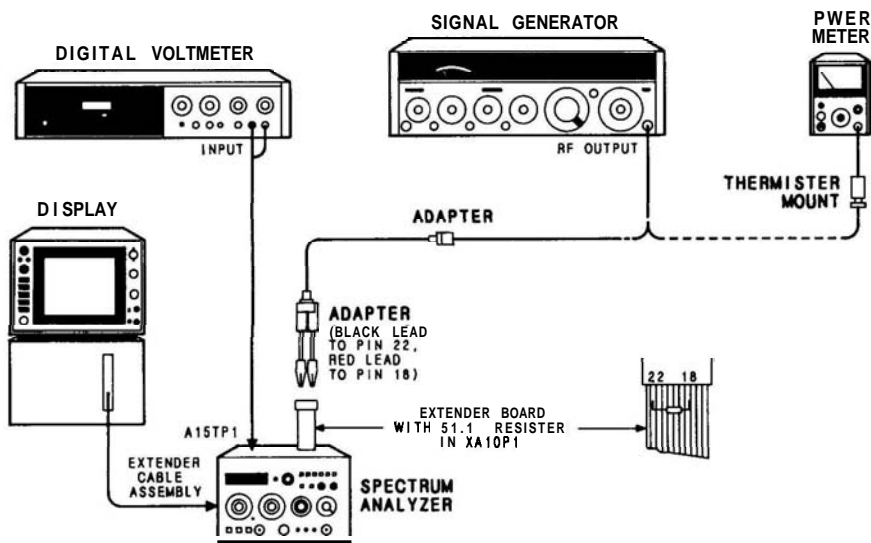

FIGURE 5-9. RF GAIN ADJUSTMENT TEST SETUP
2. Connect equipment as shown in Figure 5-9. Resistor on extender board should be toward rear of HP 8559A.